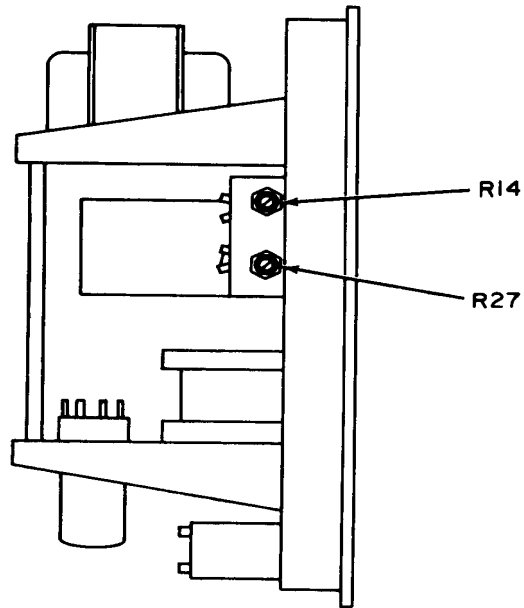

Figure 1. Left-side view of model 420
- (1) Adjust R27 (fig. 1) until differential voltmeter indications observed in **a(2)** and (3) above are within ± 0.03 percent of each other (R).
- (1) Adjust R14 (fig. 1) for a 9.1000000 indication on differential voltmeter (R).